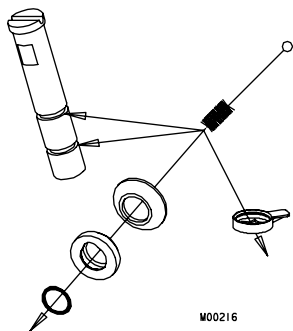

Figure 6-12 Clean O-ring grooves, seal and nozzle with brush.
- The beater shaft cup seals, plastic washers, and O-rings, plunger O-ring grooves and nozzles, as shown in figure 6-12.